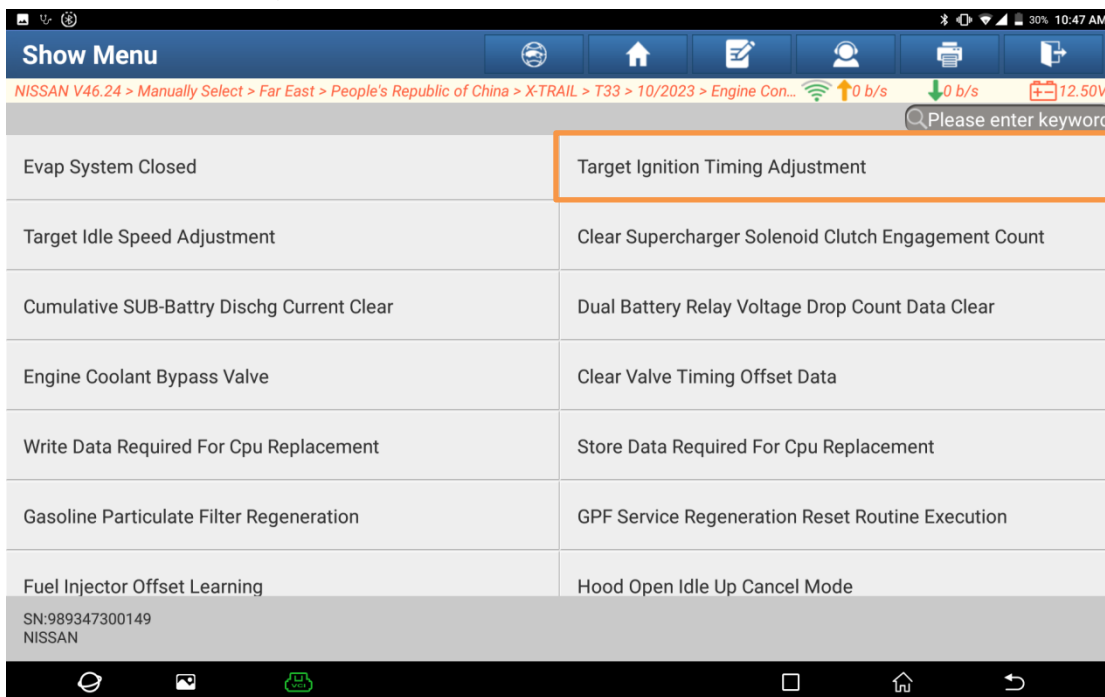

Figure 11
- On the [WORK SUPPORT] menu interface, click [Target Ignition Timing Adjustment] (Figure 11).